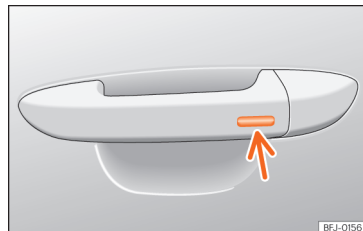

Fig. 106 Door handle: sensor surface.
• Press and hold the locking sensor surface » Fig. 106 (arrow) on the door handle to close the sunroof. If you release the sensor surface, the closing movement stops.